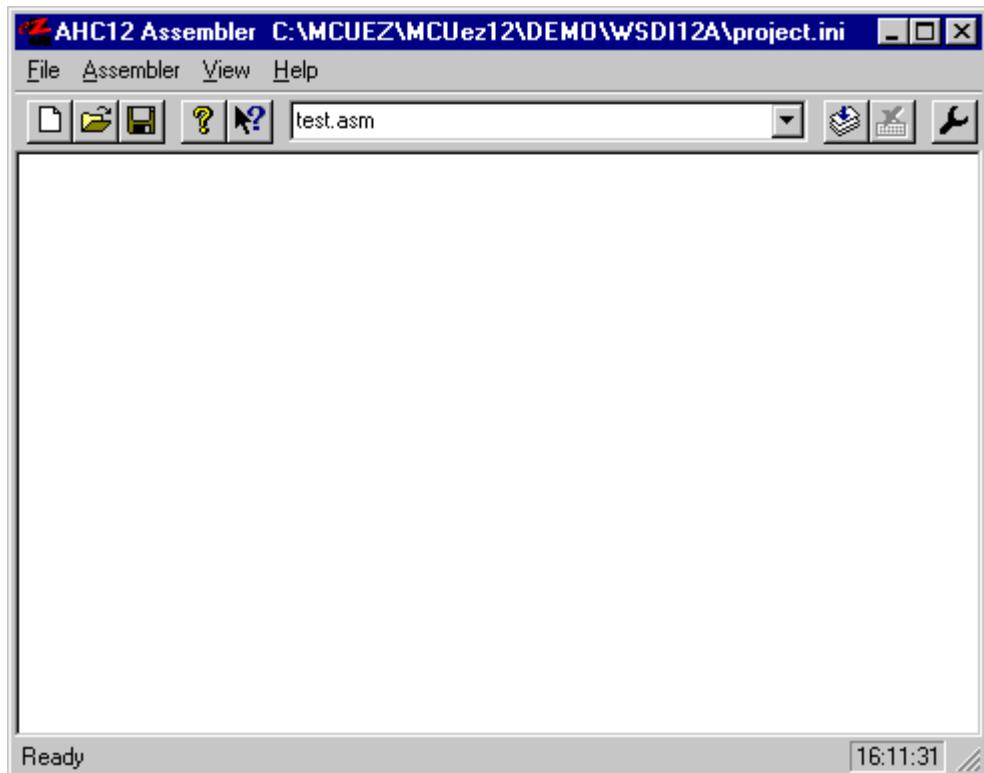

Figure 1-5. Assembler Window
1. Start the assembler by clicking on the **ezASM** button in the **MCUez Shell**. Enter the name of the file to be assembled in the editable combo box, as shown in Figure 1-5.